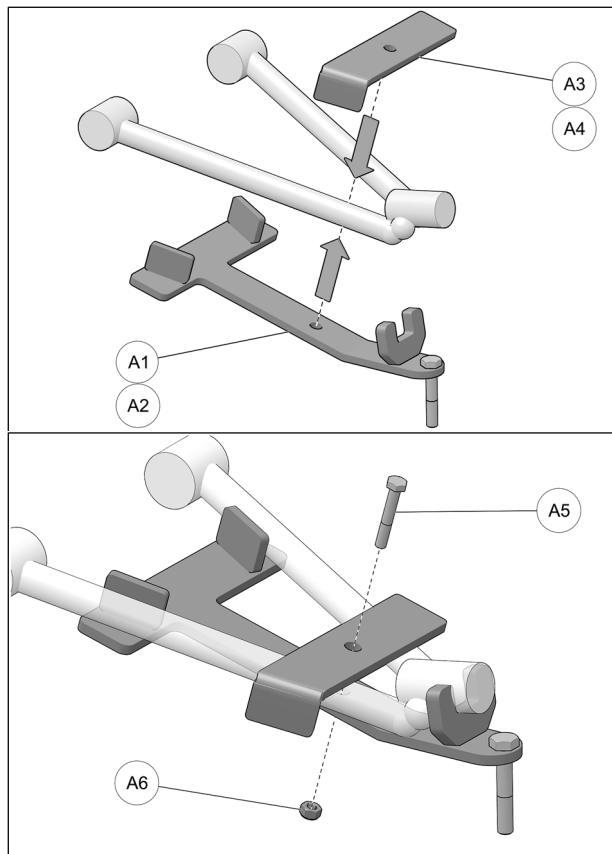

Fig. 13
5. Position bottom part of anchor bracket (A1-A2) assembly under front lower suspension arm, as shown in the figure below. Position bracket cover (A3-A4) over suspension arm and align holes in cover and bottom part. Insert M10x65mm bolt (A5) through top and secure the two parts together with nut (A6) provided. Tighten assembly to 50 N•m [37 lb•ft] of torque. Refer to Fig. 13